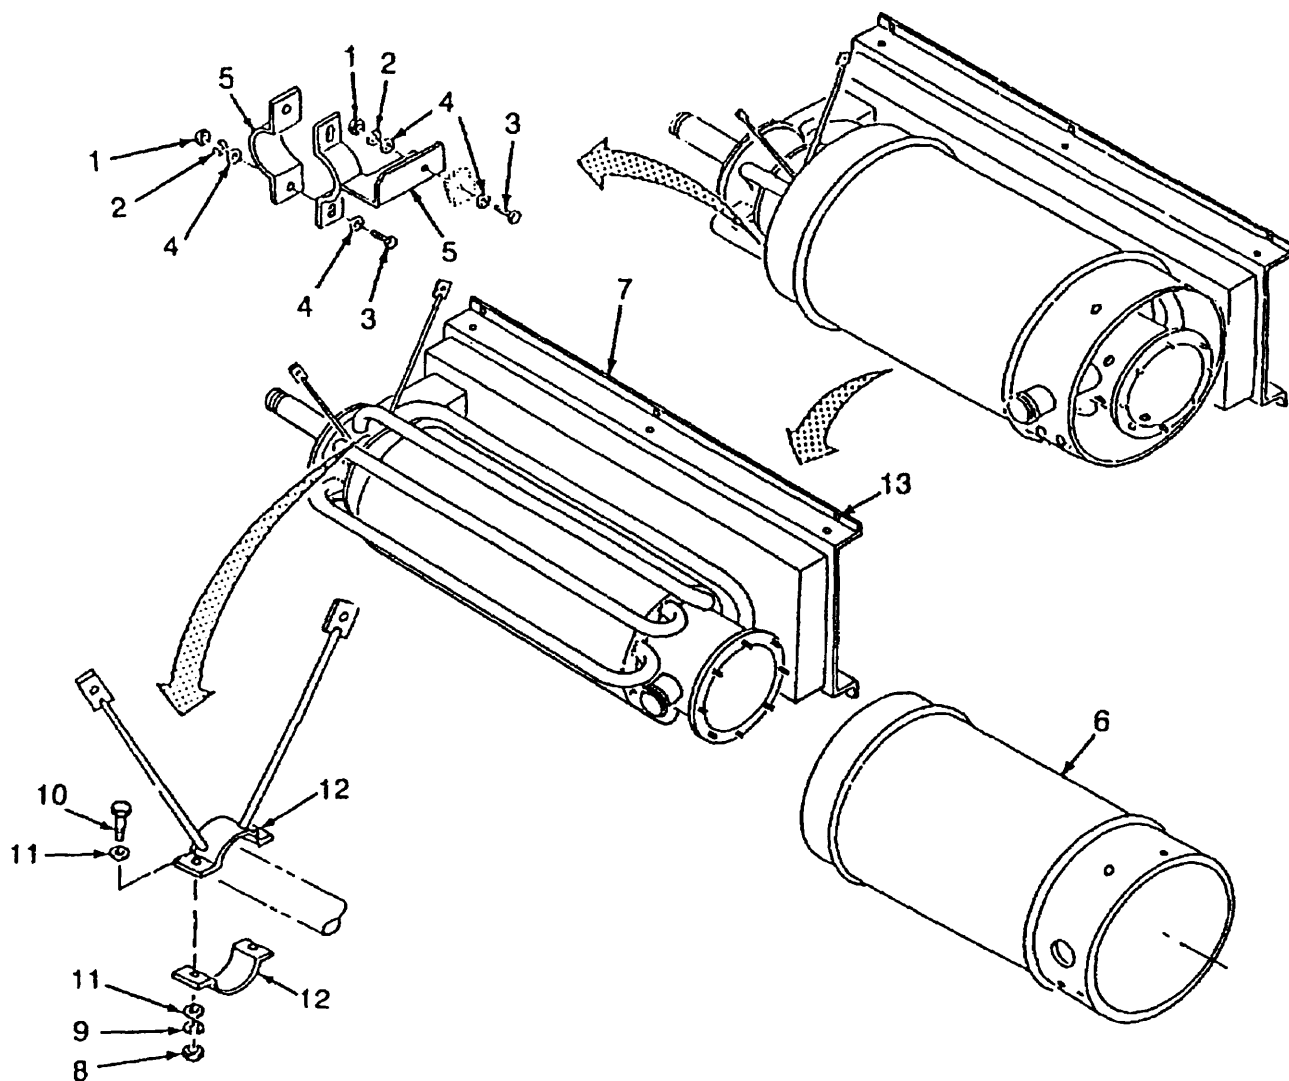

Figure 5-14. Heat Exchanger, (Model H120) Disassembly
b. Disassembly - continued (Refer to Figure 5-14)
- (2) Remove six nuts (1), six lockwashers (2), six screws (3) and twelve flat washers (4) from two clamps (5). Discard lockwashers.
- (3) Remove heat exchanger shell (6) from the heat exchanger (7).
- (4) Remove two nuts (8), two lockwashers (9), two screws (10) and four flat washers (11) and clamp (12). Discard lockwashers.
- (5) Remove captive nuts (13) only if damaged and replacement is required.